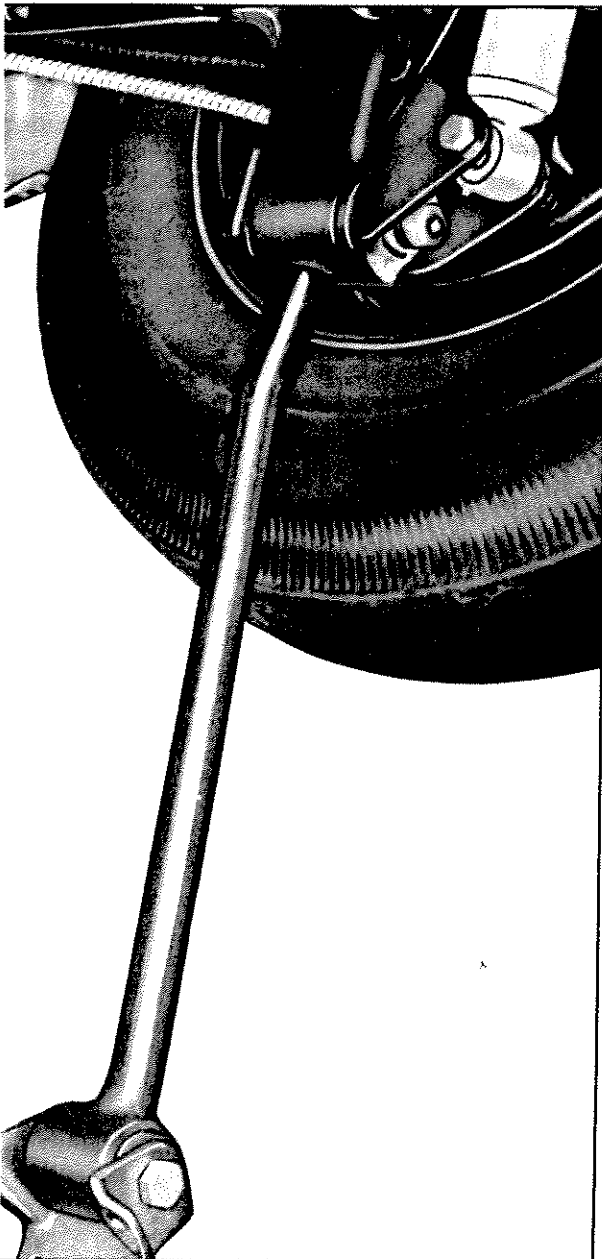

Fig. 45—Rear Strut Rod Lowered
11. Disconnect left and right rear strut rod brackets from differential carrier (fig. 45), then swing rods down.